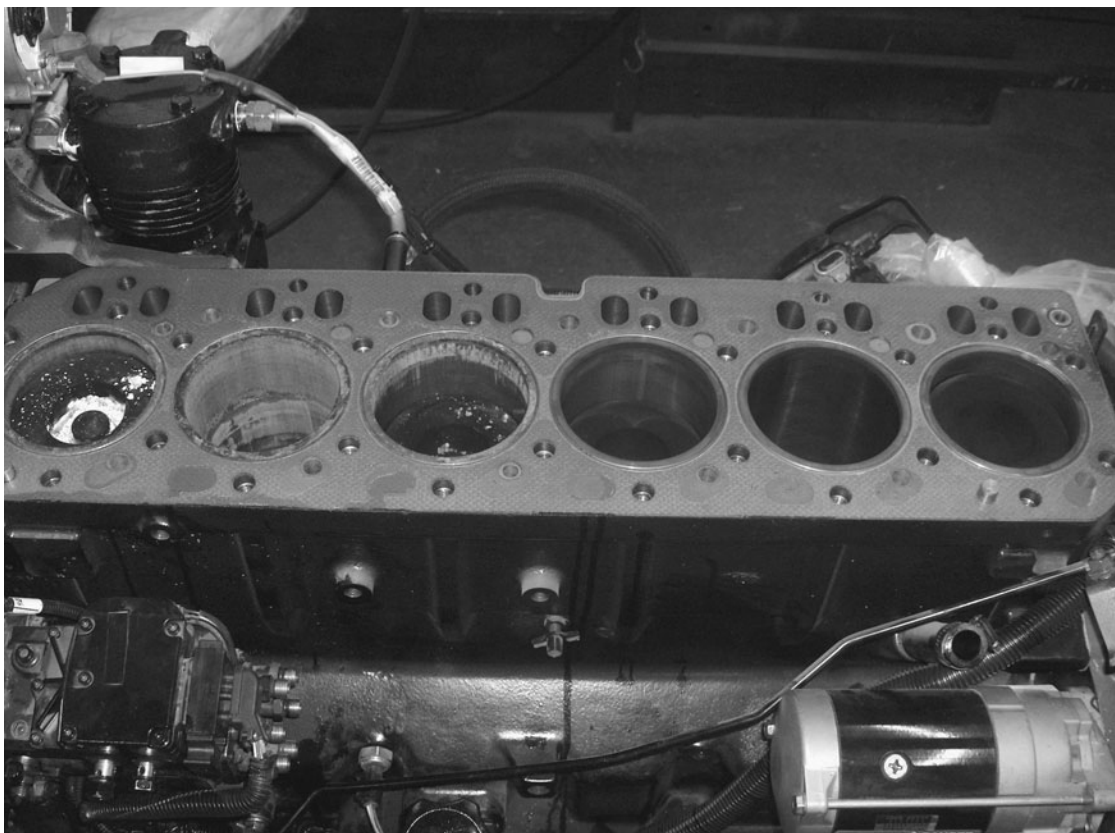

Fig. 10-3. Rust in cylinder walls caused by rainwater entering through an exhaust stack. (Courtesy Wilkies Equipment, Anchorage, Alaska)
- ♦ Piston rings and cylinder walls severely rusted due to water in the cylinder (see Fig. 10-3)